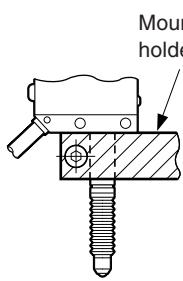

Fig. 3-1. Mounting the probe with a holder
- There are two ways to mount the probe on a machine. One way (Fig. 3-1) is to chuck the stem using the holder and the other (Fig. 3-2) is to fix the unit using the installation hole on the stem.